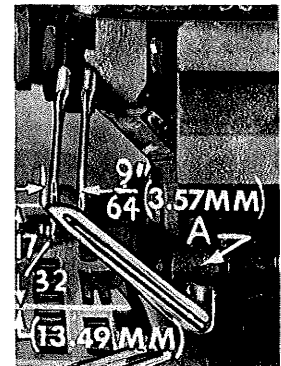

Fig. 10
Next, turn the handwheel until the upper looper is at the left end of its travel. On Style 39500 QW, check dimensions of upper looper point with respect to the RIGHT needle and throat plate (Fig. 10). Looper point should be $\frac{9}{64}$ inch (3.57 mm) to the left of centerline of RIGHT needle and $\frac{17}{32}$ inch (13.49 mm) above throat plate (Fig. 10). On Styles 39500 RG and RH, check dimensions of upper looper point with respect to the LEFT needle and throat plate. Looper point should be $\frac{3}{16}$ inch (4.76 mm) to the left of centerline of LEFT needle and $\frac{39}{64}$ inch (15.48 mm) above throat plate.
If resetting is necessary, do it by moving the upper looper holder (A, Fig. 10). NOTE: Figure 10 represents the correct dimensional settings for Style 39500 QW only.
If it becomes necessary to move looper thread pull-off (AF), be sure to take up all end play in needle drive shaft before tightening. If upper looper is located so that it is higher over throat plate than recommended in (Fig. 10), the purl will tend to form near the top edge. If upper looper is too low, the purl will form nearer the bottom edge.